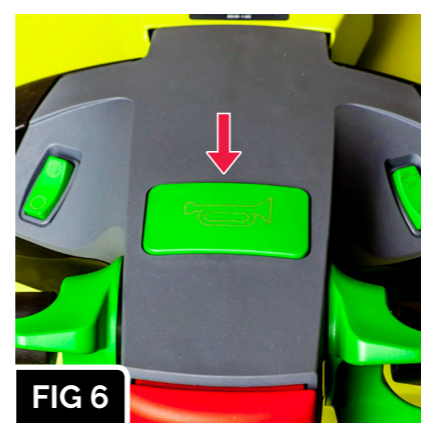

FIG 6
- ▶ The horn is situated on the top center of the tiller head. (Fig 6).